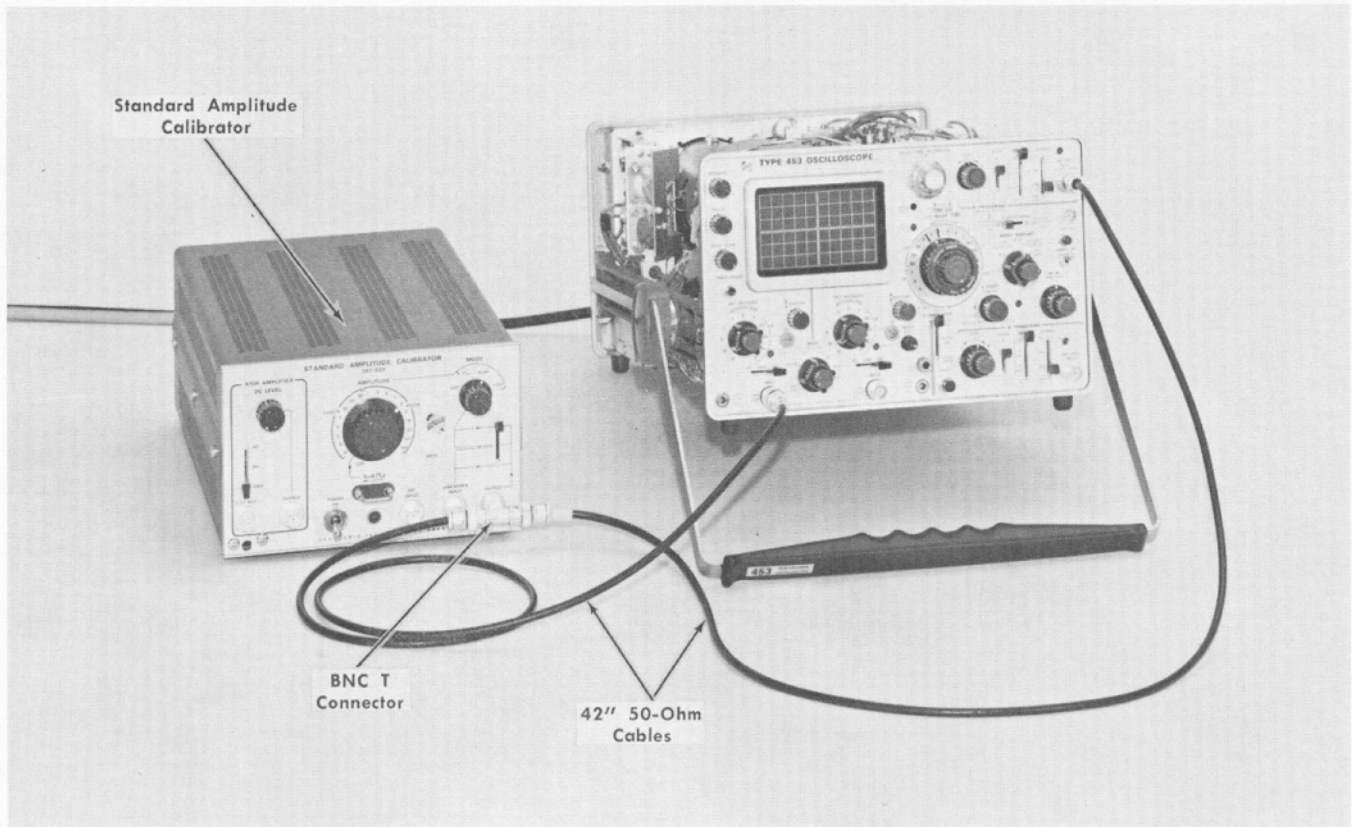

Fig. 6-41. Test equipment setup for step 35.
- a. Test equipment setup is shown in Fig. 6-41.